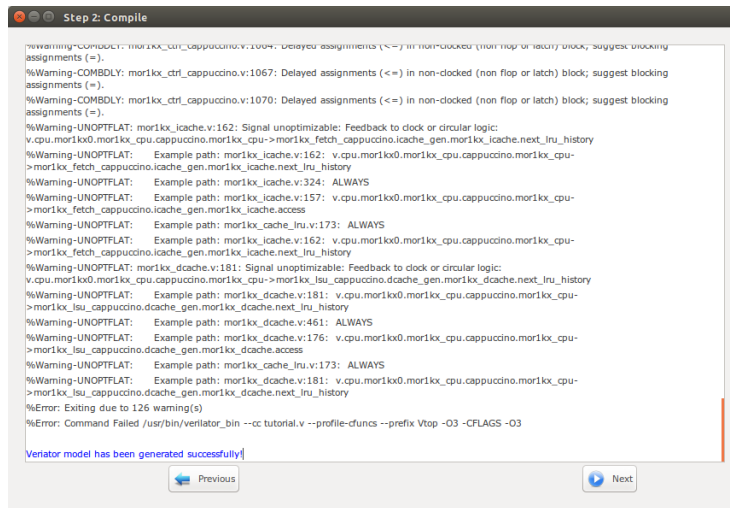

Figure 5.18: Verilator model generation snapshot.
2. The Verilator Model of your SoC should be generated now. If the model is generated successfully, you must see "Veriator model has been generated successfully!" in the Textview window as shown in Figure 5.18.